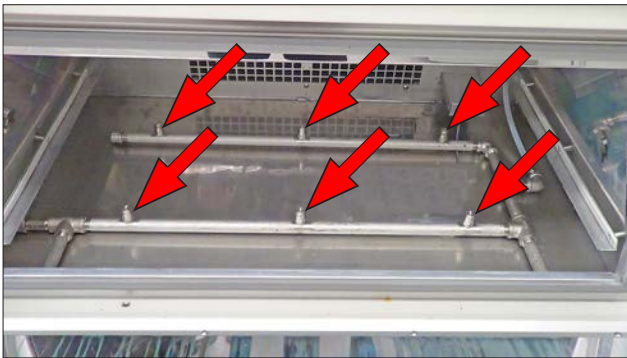

Figure 9.2a: Back Spray nozzles on bottom of Xe-3 test chamber (specimen tray removed).
- During a *DARK+SPRAY FRONT+BACK* step, in addition to the standard front (top) spray, six nozzles (Figure 9.2a) spray the bottom (back) surface of the specimens through an open-back (mesh) specimen tray.